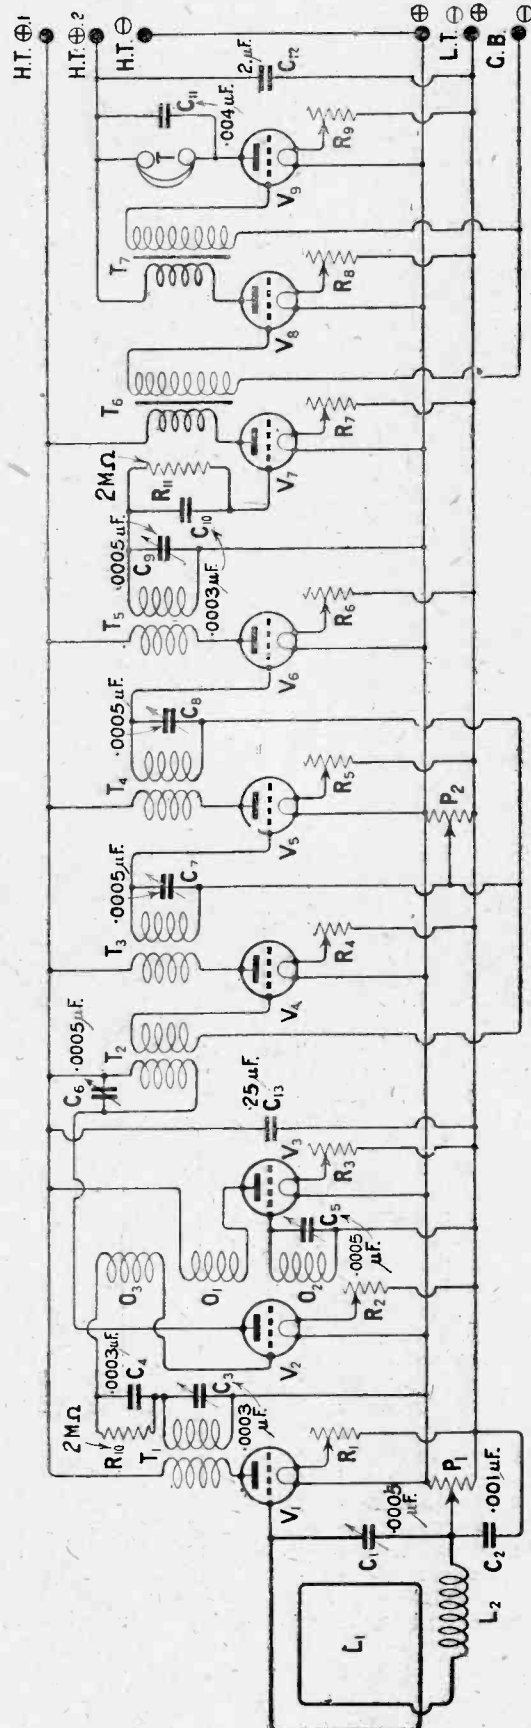

Fig. 1.—The simplified circuit. The loading coil L_2 is only needed in exceptional cases where frame aerials possessing very few turns are used.
10. The provision of L.F. amplifying valves for loud-speaker work. To fulfill all these conditions, nearly all of which I regarded as vital, I arrived at the general circuit shown in Fig. 1.
From Fig. 1 it will be seen that the oscillator circuit enables hand capacity effects to be reduced to a